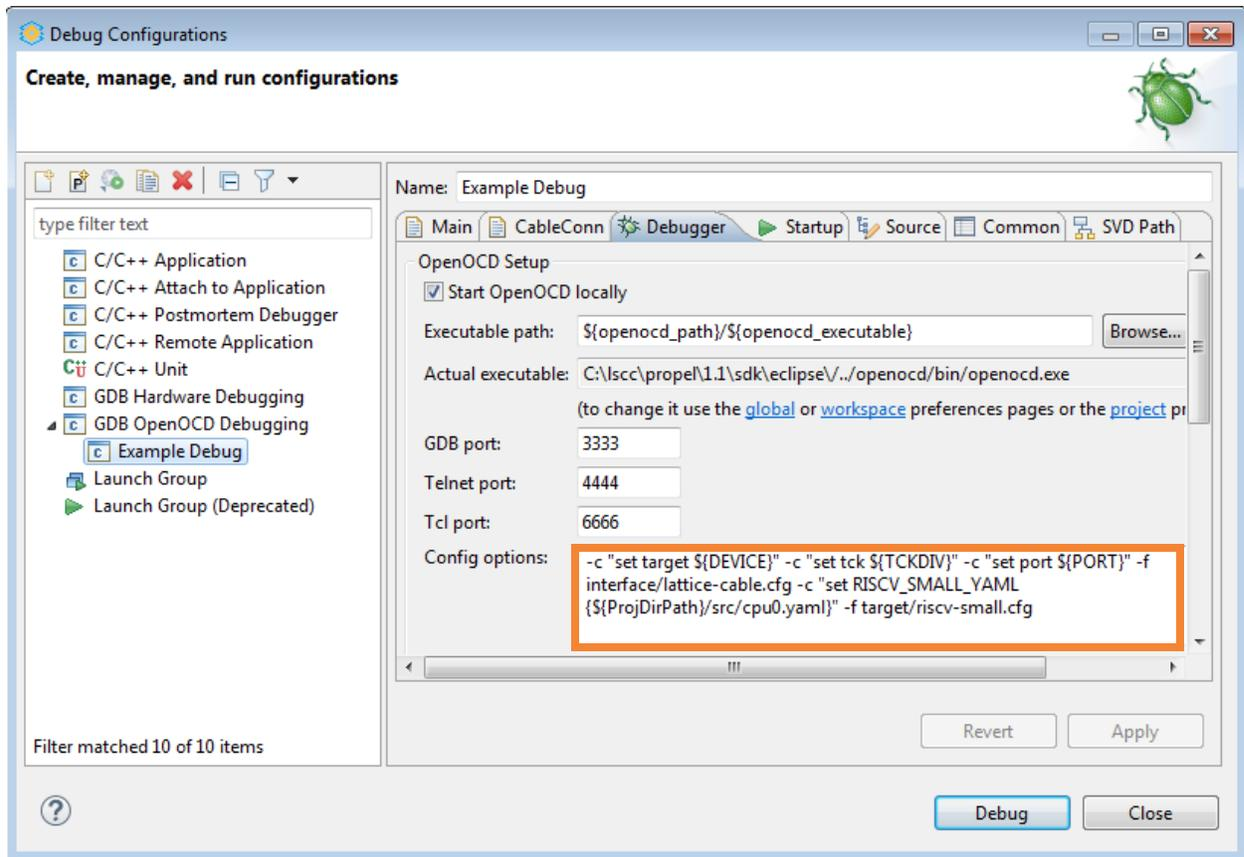

Figure 3.34 Debugger Tab of Debug Configurations
6. Select the **Debugger** tab (Figure 3.34). It is critical that the **Config options** field contains the correct command line options to be passed to OpenOCD.